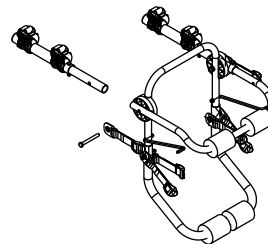

FIG. 4
B. Firmly tighten the locknuts from previous step 3.B.(Fig.4)